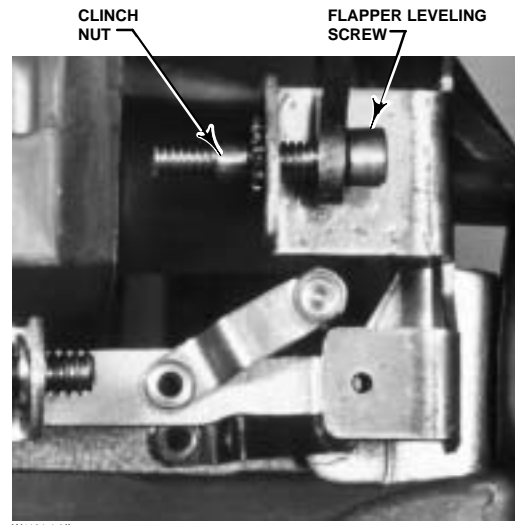

Figure 6-16. Flapper leveling Screw and Clinch Nut
10. Flapper leveling screws 1 and 3 should protrude the same distance from the clinch nuts. A clinch nut is shown in figure 6-16.